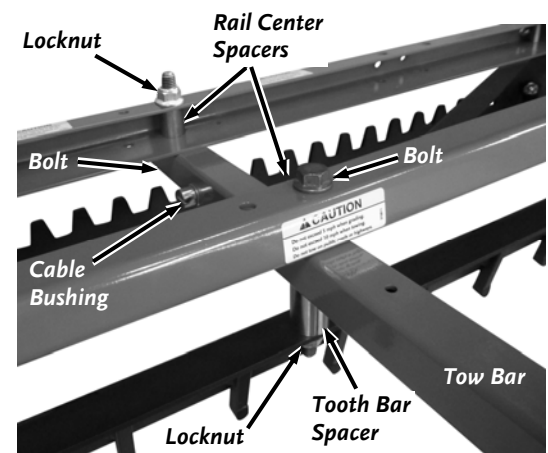

Figure 12
10. Secure the front of the Tow Bar with a 1/2-13 x 6" Bolt (with Washer), Rail Center Spacer (inserted into Crossmember), Tooth Bar Spacer (between Tow Bar and Tooth Bar) and 1/2" Locknut (with Washer) only hand tight for now (**Figure 12**).